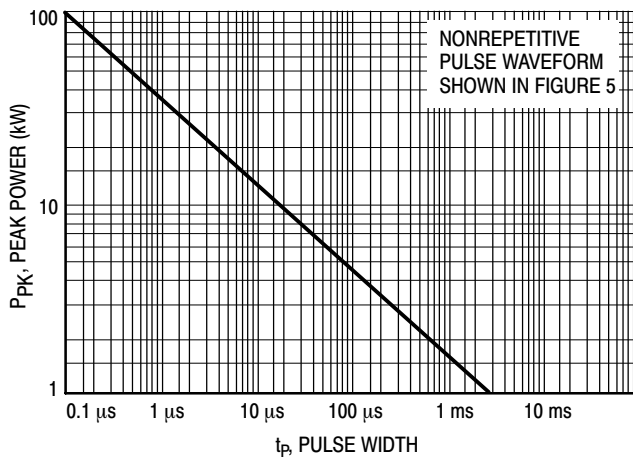
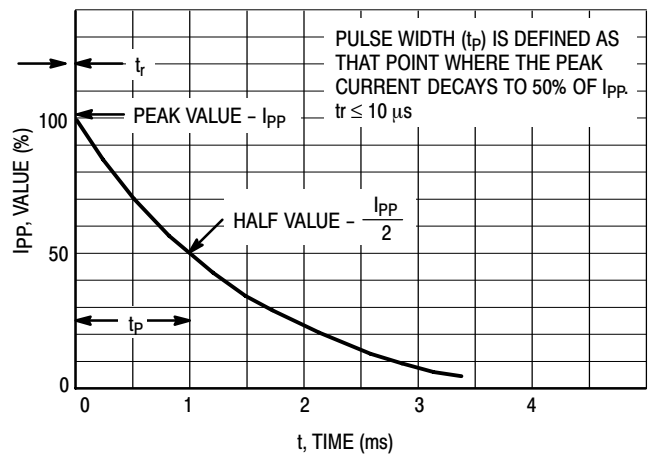
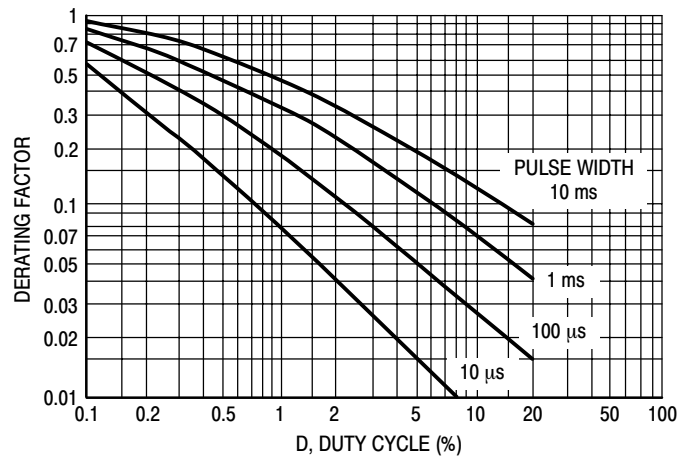

Figure 1. Pulse Rating Curve
Figure 5. Pulse Waveform
Figure 7. Typical Derating Factor for Duty Cycle
1. Nonrepetitive current pulse per Figure 5 and derated above $T_A = 25^\circ\text{C}$ per Figure 2.
7. Surge current waveform per Figure 5 and derate per Figures 1 and 2.
The data of Figure 1 applies for non-repetitive conditions and at a lead temperature of 25°C . If the duty cycle increases, the peak power must be reduced as indicated by the curves of Figure 7. Average power must be derated as the lead or
At first glance the derating curves of Figure 7 appear to be in error as the 10 ms pulse has a higher derating factor than
the 10 μ s pulse. However, when the derating factor for a given pulse of Figure 7 is multiplied by the peak power value of Figure 1 for the same pulse, the results follow the expected trend.